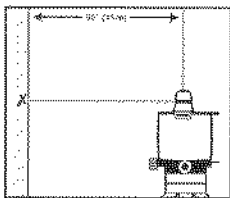

Fig. 8
- 1: Mount and level the LaserMark® on a tripod and place approximately 50 feet (15m) away from a wall. Face the front of the unit to the wall (Fig. 8).